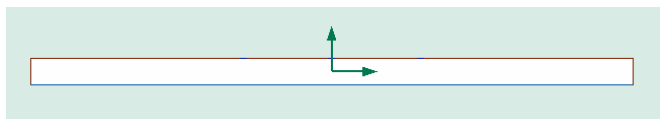

Figure 9. Fence Mounting Holes Sketch.
15. Use face selection to select the back face then right click and create a new sketch. Name the sketch fence mounting holes. Use Shift-W to see the sketch in ortho as in figure 9.